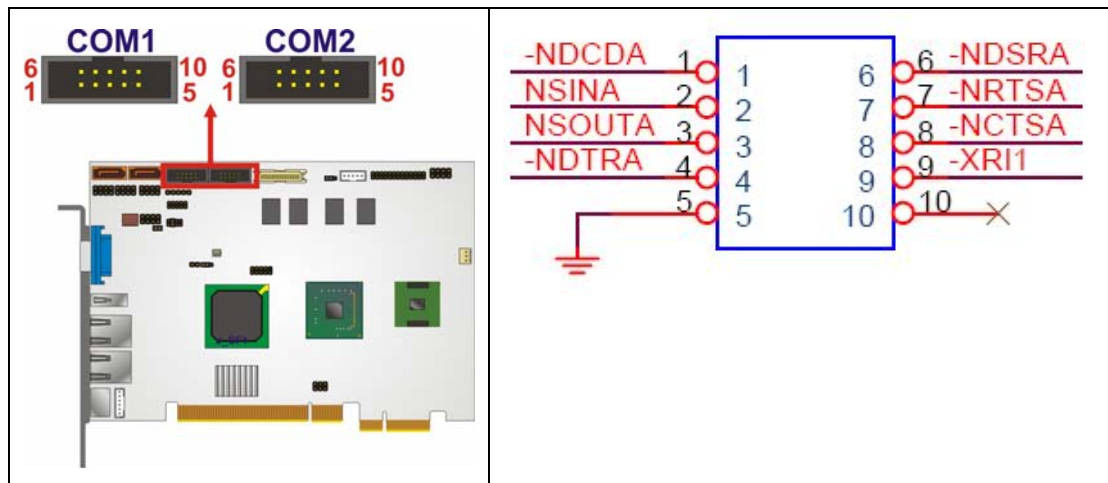

Figure 4-15: COM Connector Pinout Locations
- CN Location:** See **Figure 4-15**